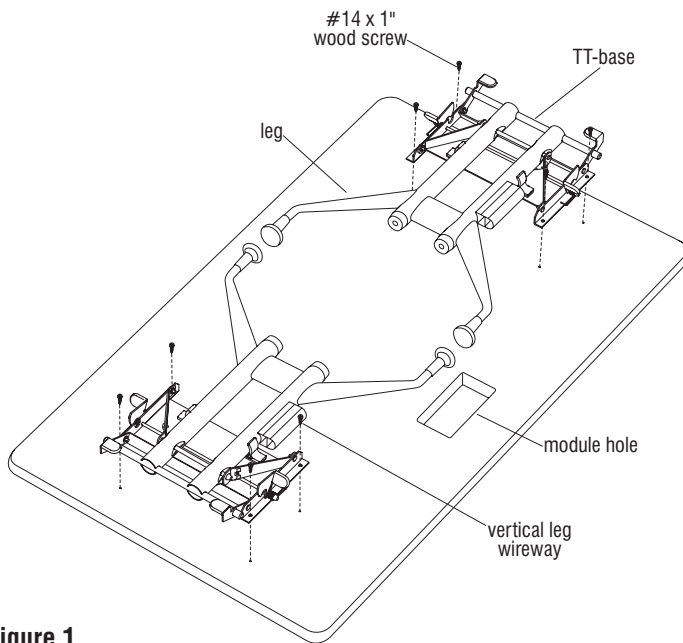

Figure 1
2. Locate the four pre-drilled pilot holes at each end of the table for each TT-base. Orient the mounting holes of each base with the pre-drilled holes in the table (Figure 1).
3. Secure each base to the table with four #14 x 1" screws provided, not to exceed 60 in/lbs of torque (Figure 1).